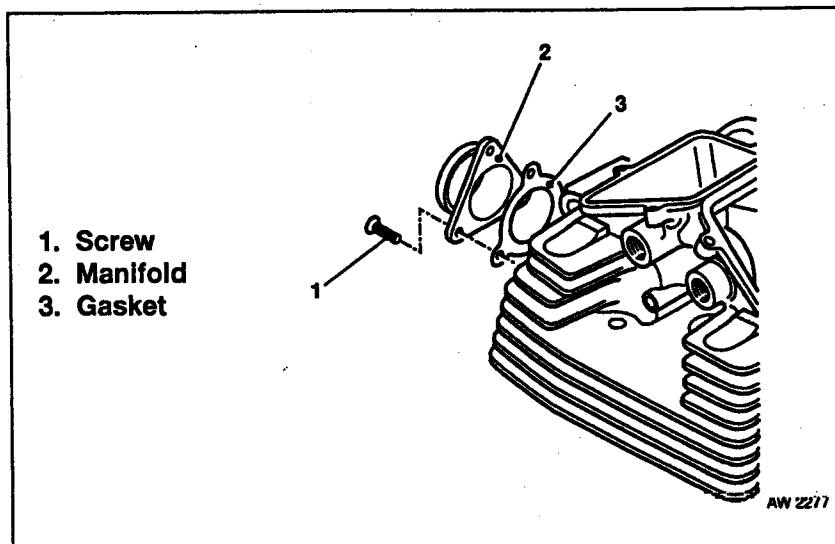

Fig 4.16 Intake Manifold and Gasket
(4) Carburettor Installation
- (a) Place the manifold and gasket in position on the cylinder head. Fig 4.16 refers.